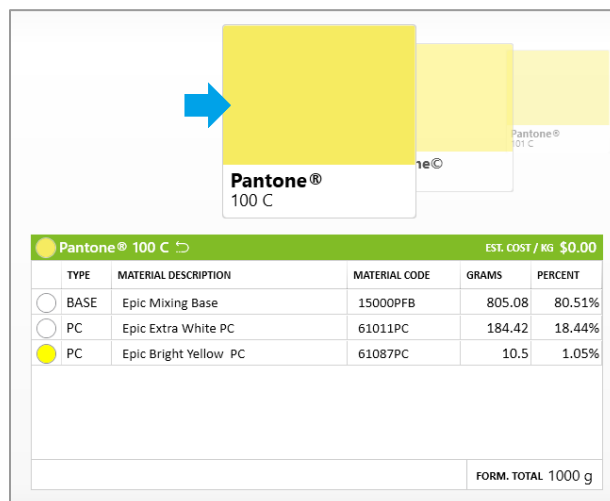

Figure 19 Selecting a color to print
- Select a color you would like to print a label for from the Formula Picker. (Figure 19)